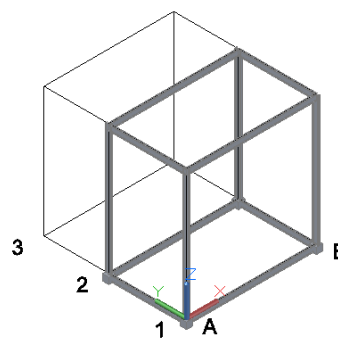

Figure 3-41 Model after adding all beams
5. Choose the **Member** tool and place beams on both levels of the grid. The model after placing all the beams is shown in Figure 3-41.